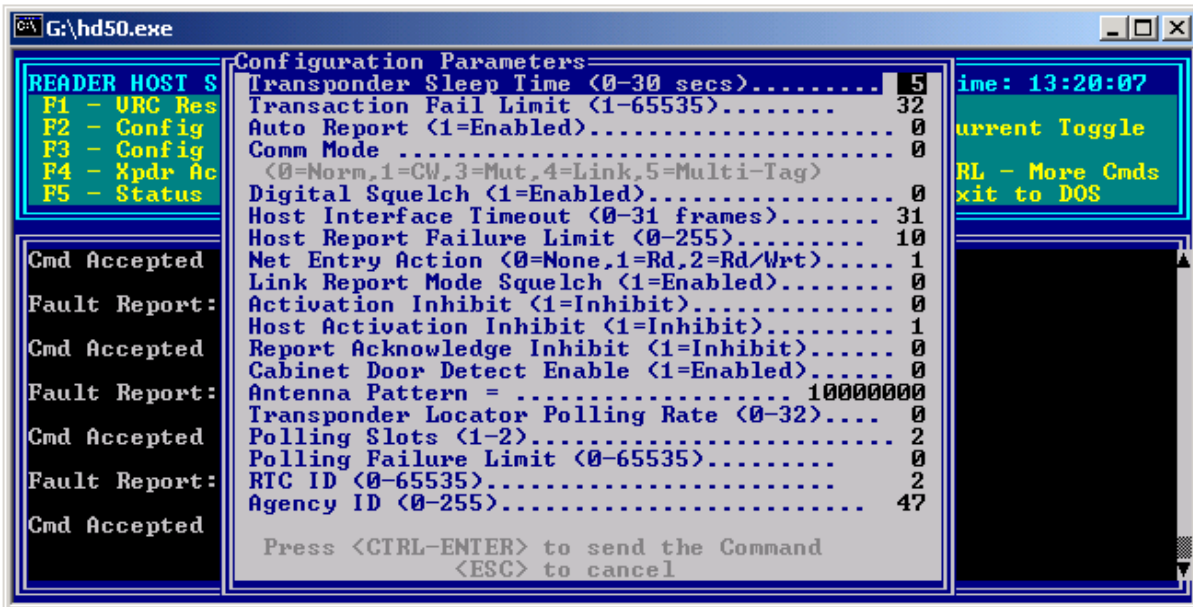

Figure 6-HD 5.0: Configuration Parameter Menu
- To change the Reader’s communication mode, press <F2> from within HD. This will bring up HD’s Configuration Parameters menu shown in Figure 6.
- To change the Reader’s antenna pattern, press <F2> from within HD. This will bring up HD’s Configuration Parameters menu shown in Figure 6.